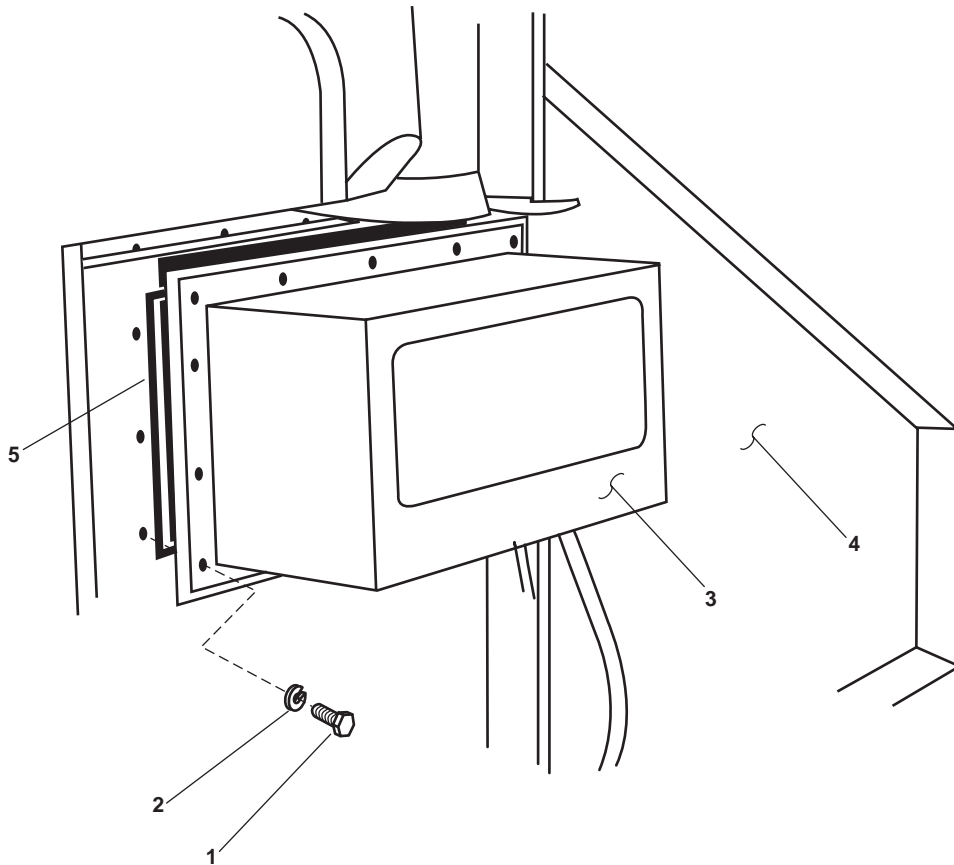

Figure 6. Cable Drive Indicator Cover
1. Remove the 14 bolts (figure 6, item 1) and the 14 lockwashers (figure 6, item 2) from the cable drive indicator cover (figure 6, item 3). Discard the lockwashers.
2. Remove the cable drive indicator cover (figure 6, item 3) from the towing machine (figure 6, item 4).
3. Remove the gasket (figure 6, item 5) from the cable drive indicator cover (figure 6, item 3). Discard the gasket.
8. Install a new gasket (figure 6, item 5) on the cable drive indicator cover (figure 6, item 3).
9. Install the cable drive indicator cover (figure 6, item 3) on the towing machine (figure 6, item 4).
10. Install the 14 bolts (figure 6, item 1) and 14 new lockwashers (figure 6, item 2) in the cable drive indicator cover (figure 6, item 3).